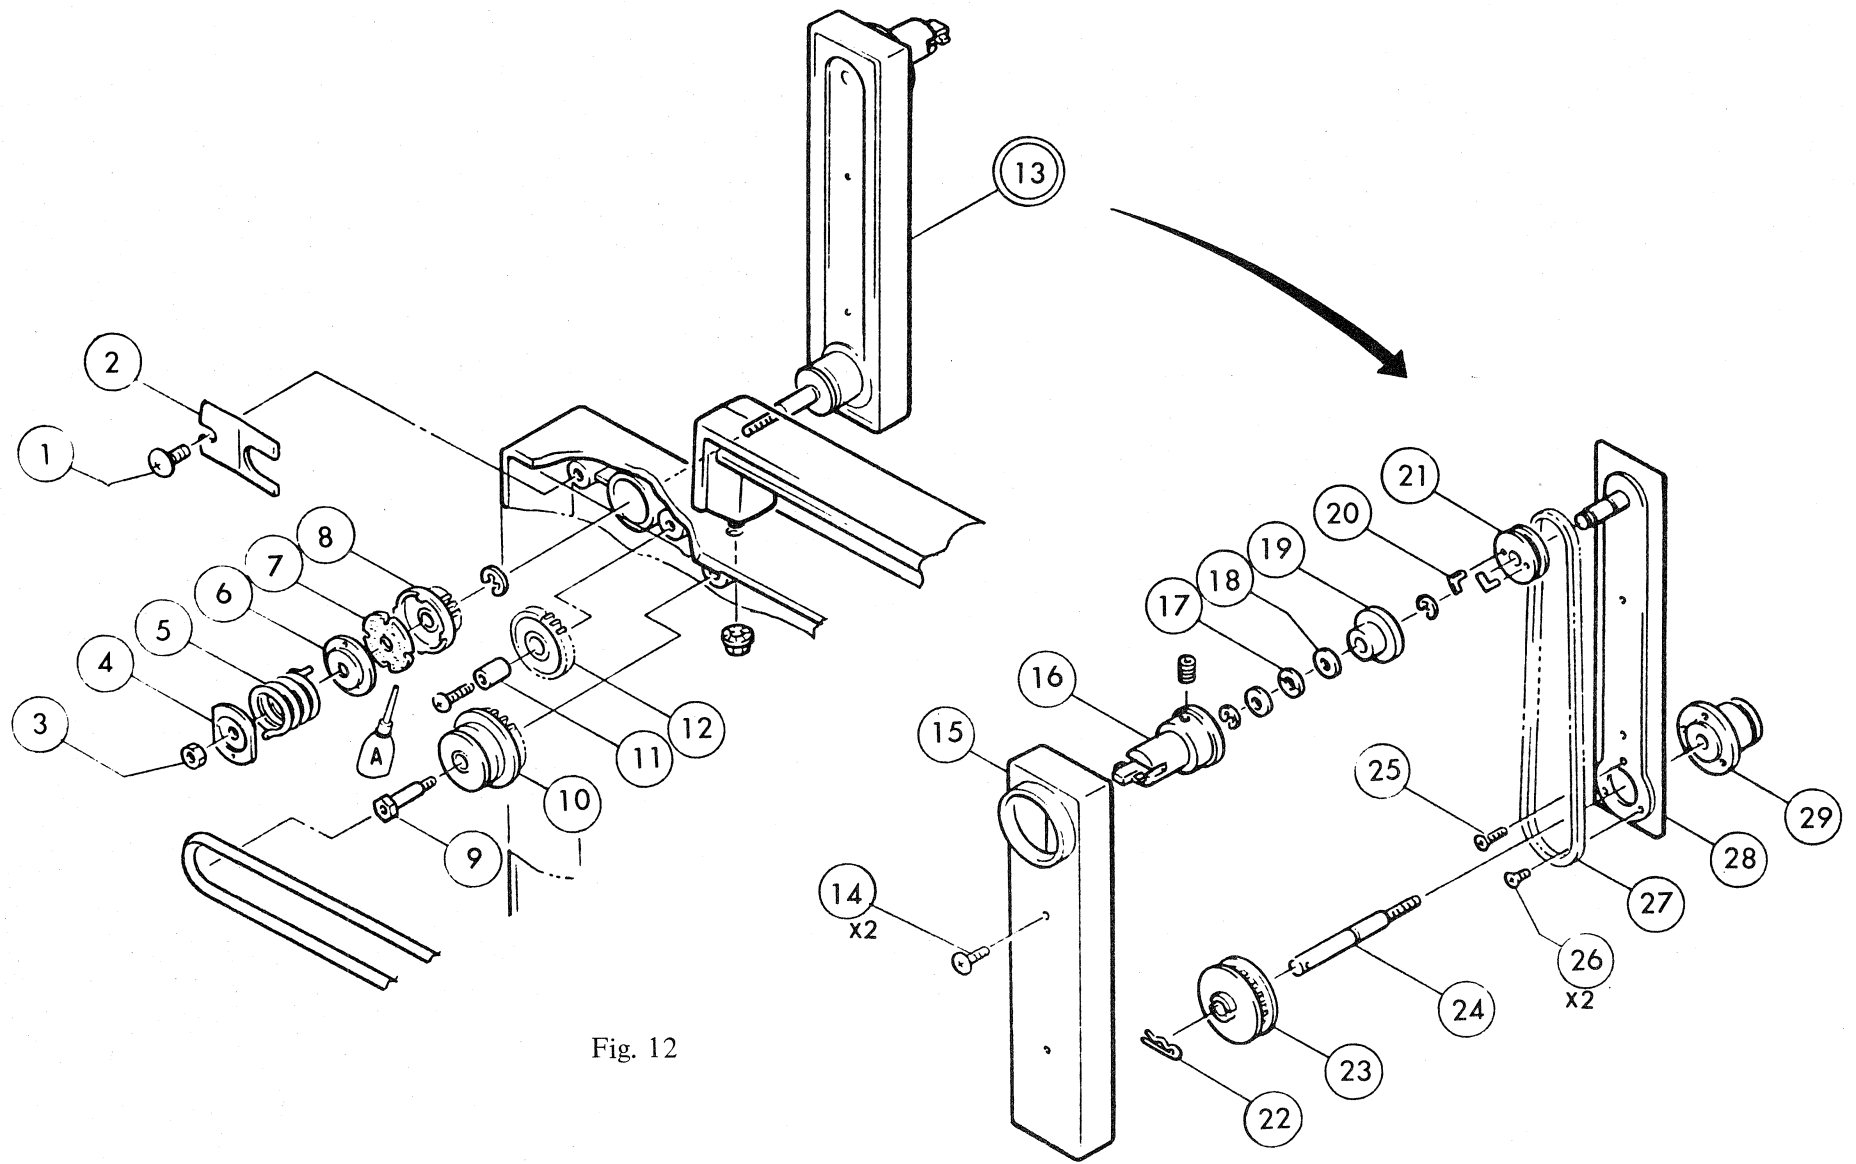

Fig. 12
### III – 2 – 4 Front Arm (See Fig. 12)
1. Unscrew 2 pieces of ⑭ to remove ⑮.
2. Pull out ⑳ to remove ㉑.
4. Unscrew 1 piece of ① and disconnect ② to remove ㉙.
5. See Fig. 12 for further disassembly.